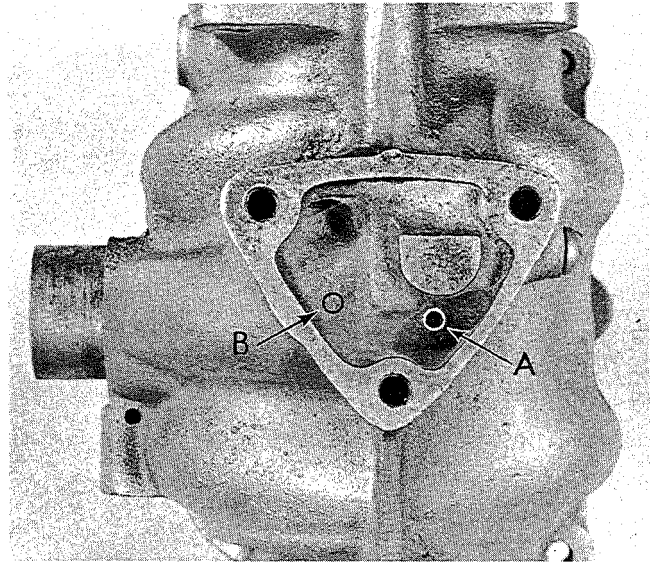

Fig. 2
With installation of the redesigned bearing, a minor operation is required in the crankcase to relocate the oil return from the upper journal. This is easily accomplished by merely plugging hole (A) in the crankcase, Fig. 2, with aluminum plug #300739 (list price \$.025 each) and drilling a 1/8" hole through the manifold wall (B).